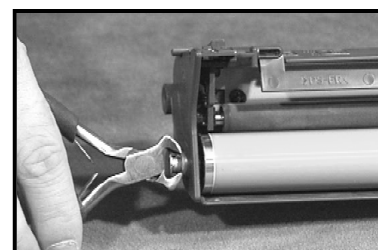
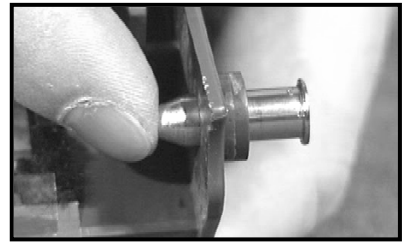

Figure 3
Figure 5
3. Use pliers to remove the flat head drum axle at the gearless end of the drum and gently pull the drum out and away from the other drum axle (figs. 3 &4). Once the drum is removed, push out the remaining axle (fig. 5). Inspect the drum for defects. If defects are detected, replace the drum with Oasis **PN: AXDR20, or AXDR10**. If the drum appears to be intact, gently clean with compressed air and a soft cloth.